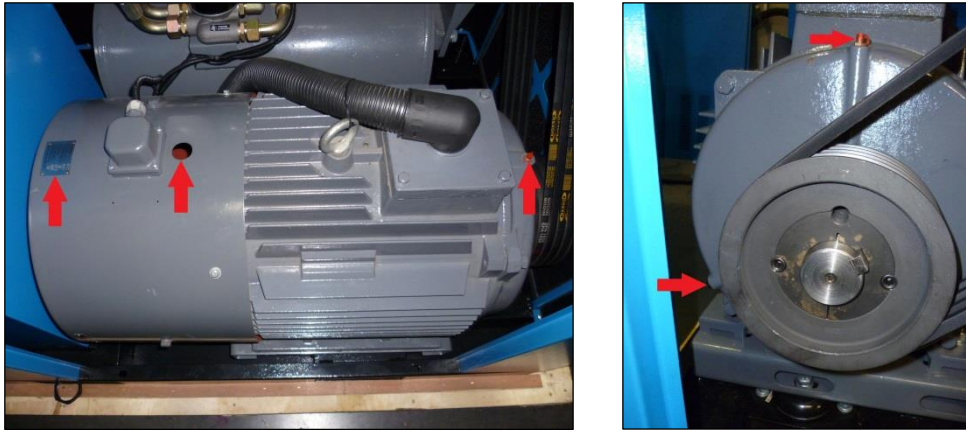

Figure 6-5 Motor Bearing Re-Greasing
- a. Locate the grease nipple on top of each DE and NDE bearing and also the grease drain plug underneath (that may be offset to one side). Refer to Figure 6-5. It is often necessary to temporarily remove the motor fan cowl on the non-drive end to access these points.